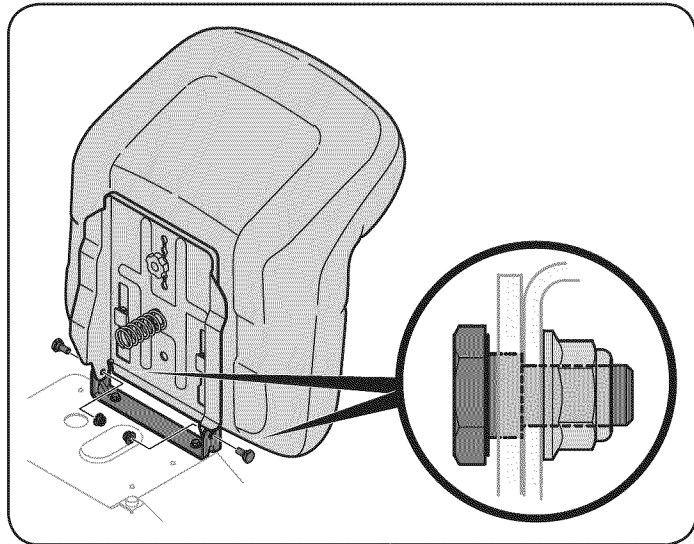

Figure 5
1. Remove the two self-tapping bolts factory installed on the tractor and place the seat bracket in place over the holes. See Figure 5.
Note: Make sure that the bolt's shoulder is completely recessed into the seat bracket when securing the lock nut. Once the lock nuts are secured, check to make sure the seat pivots up and down freely. See the inset in Figure 5.